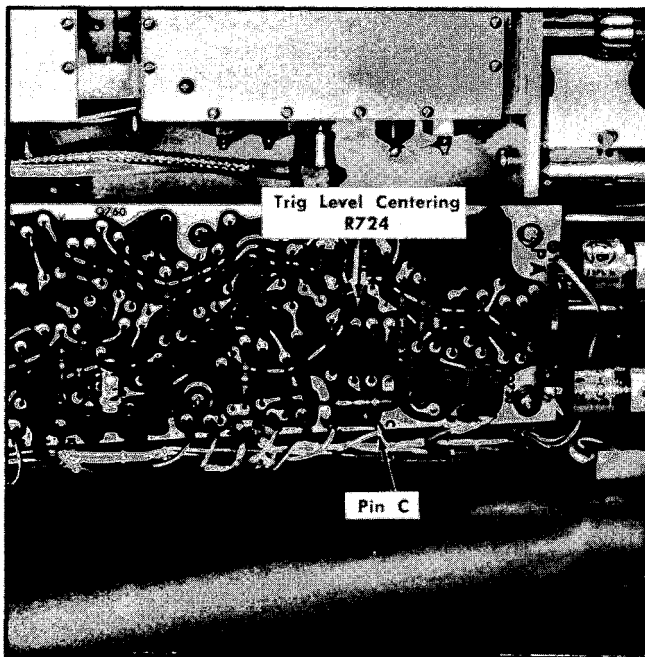

Fig. 6-12. Adjustments for trigger circuit on the horizontal display circuit board assembly.
c. Adjust the Trigger LEVEL control for a voltmeter reading of 0 volts between pin C (see Fig. 6-12) of the Horizontal Display board and chassis ground.